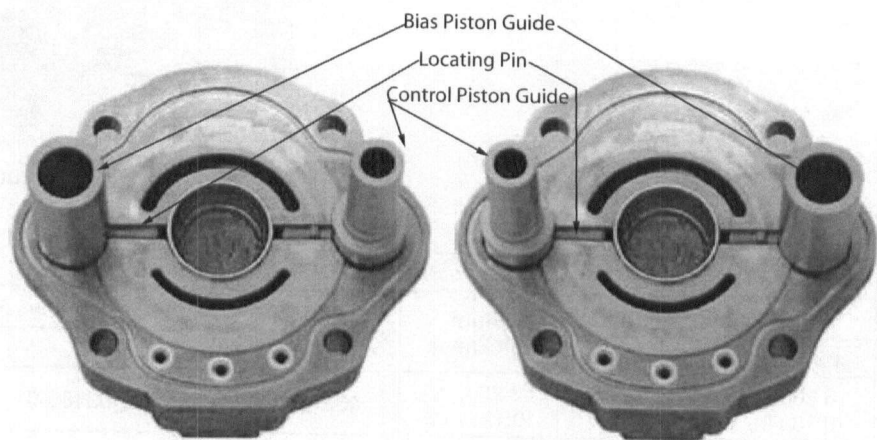

Figure 4A
18. Apply Loctite Primer 7469 to the guide threads and allow to dry. Install unlubricated o-rings on the control guide and bias guide. Apply Loctite 272 to the guide threads. For right hand rotation the control guide is installed nearest to the dowel pin (figure 4A). For left hand rotation the bias guide is installed nearest to the dowel pin (figure 4B). Torque the control and bias guides as specified in Chart 3